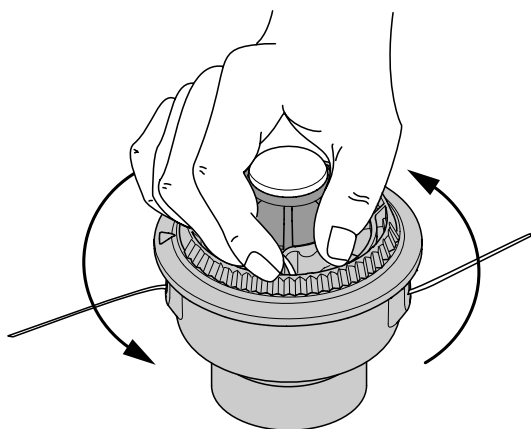

Fig. 45
8. Hold the outer spool. Wind the inner reel counterclockwise until approximately four (4) inches (102 mm) of line remain (Fig. 45).